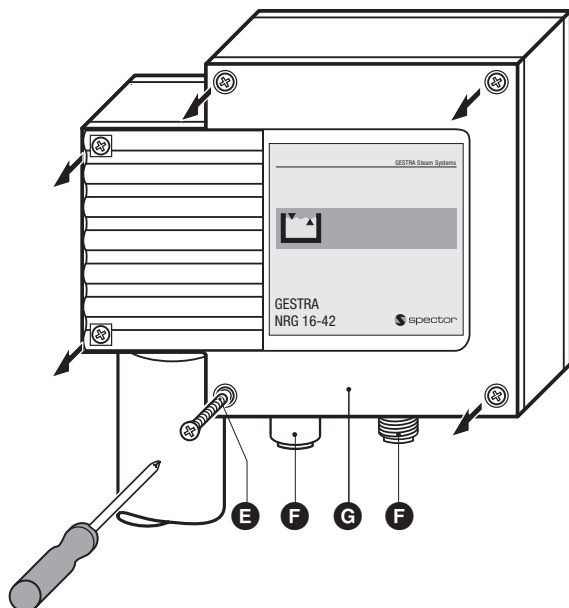

Fig. 5
1. Unscrew screws **E**, remove housing cover **G**. **Fig. 5**